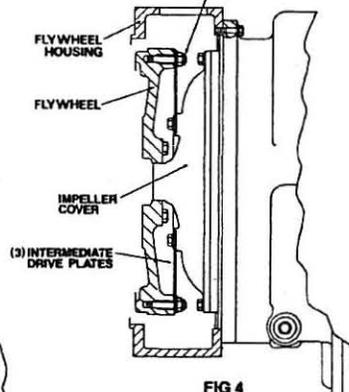

FIG 4
5. Locate transmission on flywheel housing aligning drive plate to flywheel and transmission to flywheel housing. **NOTE:** Fig. 4 installation, align drive plate holes with flywheel studs.
7. Install drive plate attaching screw and washer. Snug screw but **do not tighten**. **NOTE:** Fig. 4 installation, install drive plate attaching washers and nuts. Tighten each nut 28 to 30 ft. lbs. torque [38,0 - 40,6 N.m]. Some engine flywheel housings have a hole located on the flywheel housing circumference in line with the drive plate screw access hole. A screwdriver or pry bar used to hold the drive plate against the flywheel will facilitate installation of the drive plate screws. Rotate the engine flywheel and install the remaining seven (7) flywheel drive plate attaching screws. Snug screws but **do not tighten**. After all eight (8) screws are installed torque each one 25 to 30 ft. lbs. torque [33,8 - 40,6 N.m]. This will require torquing each screw and rotating the engine flywheel until the full amount of eight (8) screws have been tightened.
\* Does not apply to units having 3 intermediate drive plates. See Fig. 4.